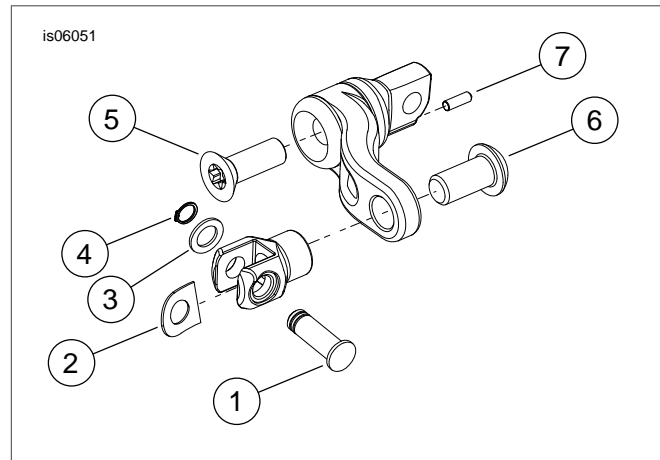
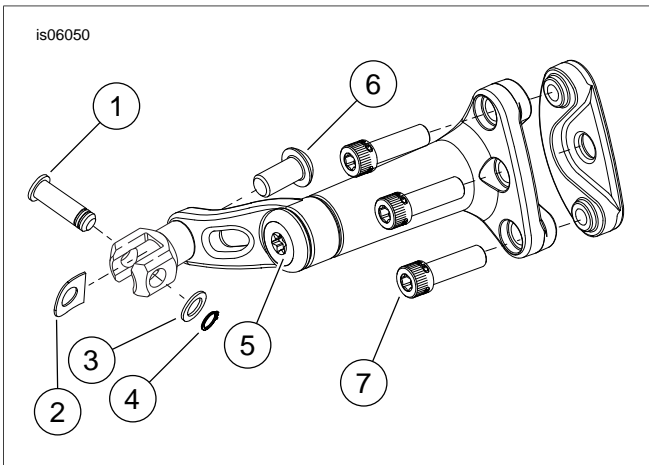

Figure 5. Service Parts: Adjustable Footpeg Support
Figure 4. Service Parts: Adjustable Footpeg Support
See Figure 4 and Table 1 and Figure 5 and Table 2.
8. See Figure 4 and Table 1 and Figure 5 and Table 2. Assemble the support arm and female clevis to the footpeg support.
9. Secure footpeg to supports using spring washer (2), clevis pin (1), washer (3) and retaining ring (4).
10. To adjust the position of the footpeg, loosen flat head screw (5) and button head screw (6). Adjust to desired location and tighten screws to 45-50 ft-lbs (61-67.8 Nm).